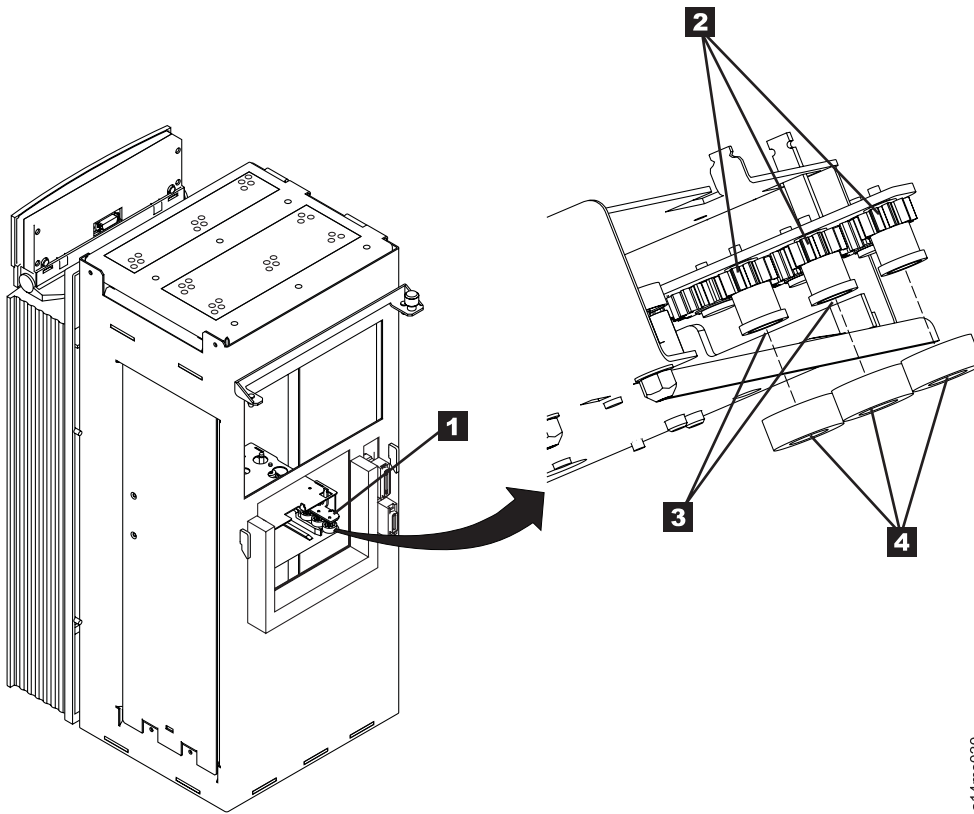

Figure 10-36. Transport Pinch Roller Assembly
4. See Figure 10-36. Rotate the elevator leadscrew to position the elevator assembly **1** about half way between the top and bottom, as shown.
- See Figure 10-36. Use a spring hook or small screwdriver to remove the 3 rollers **4** from the gears **2**.